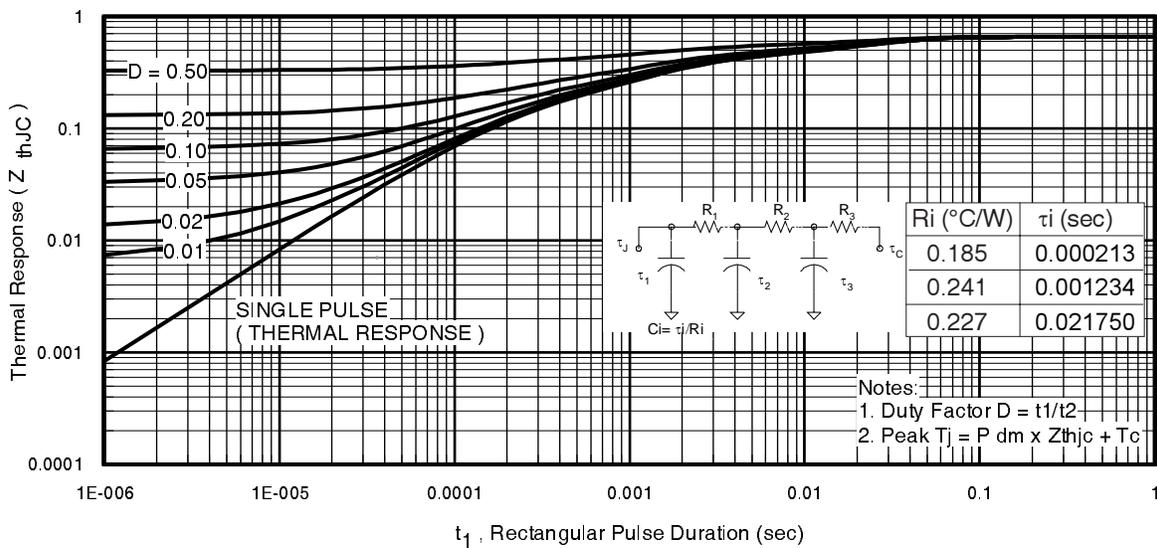
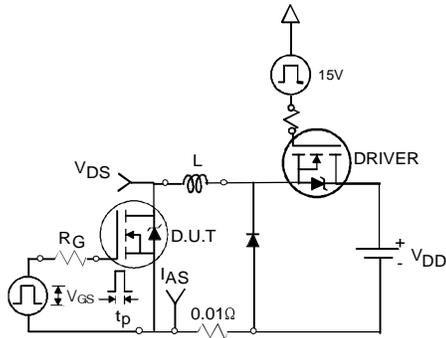

Fig 11. Maximum Effective Transient Thermal Impedance, Junction-to-Case
Fig 12a. Unclamped Inductive Test Circuit
| I_{AR} | Avalanche Current ④ | See Fig.12a, 12b, 15, 16 | A |
- ① Repetitive rating; pulse width limited by max. junction temperature. (See fig. 11).
- ② Limited by T_{Jmax} , starting $T_J = 25^\circ\text{C}$, $L = 0.079\text{mH}$, $R_G = 25\Omega$, $I_{AS} = 75\text{A}$, $V_{GS} = 10\text{V}$. Part not recommended for use above this value.
- ③ Pulse width $\leq 1.0\text{ms}$; duty cycle $\leq 2\%$.
- ④ $C_{oss\text{ eff.}}$ is a fixed capacitance that gives the same charging time as C_{oss} while V_{DS} is rising from 0 to 80% V_{DSS} .
- ⑤ Limited by T_{Jmax} , see Fig.12a, 12b, 15, 16 for typical repetitive avalanche performance.
- ⑥ This value determined from sample failure population. 100% tested to this value in production.
- ⑦ This is only applied to TO-220AB package.
- ⑧ When mounted on 1" square PCB (FR-4 or G-10 Material). For recommended footprint and soldering techniques refer to application note #AN-994.
3. Equation below based on circuit and waveforms shown in Figures 12a, 12b.
$Z_{thJC}(D, t_{av})$ = Transient thermal resistance, see figure 11)